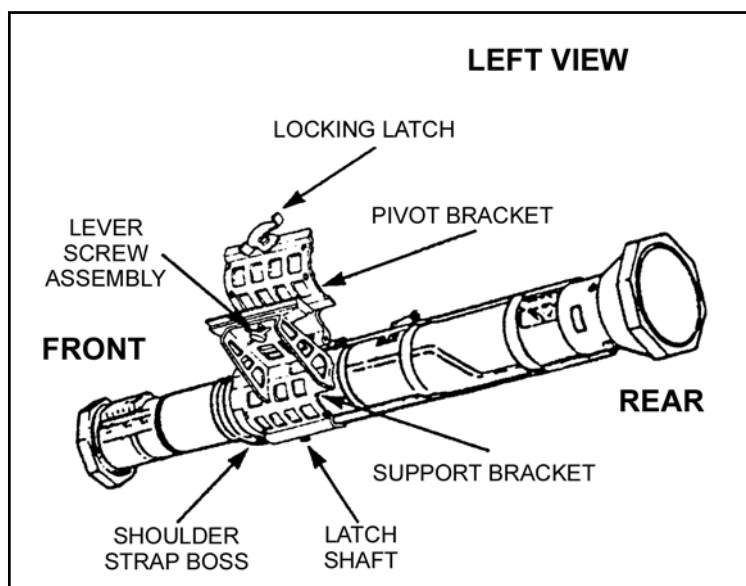

Figure F-2. M136 (AT4) installation.
(1) **M136 (AT4) Launcher and Cartridge Mounting Procedures.** The aiming light is attached to the M136 (AT4) launcher and cartridge by first attaching the mounting bracket to the weapon and then attaching the aiming light to the mounting bracket (Figures F-2 and F3).
(f) Place the bracket adapter (Figure F-2) in groove of the mounting rail so that the threaded screw hole in the base of the adapter is aligned with the lever screw assembly and tighten the lever screw.